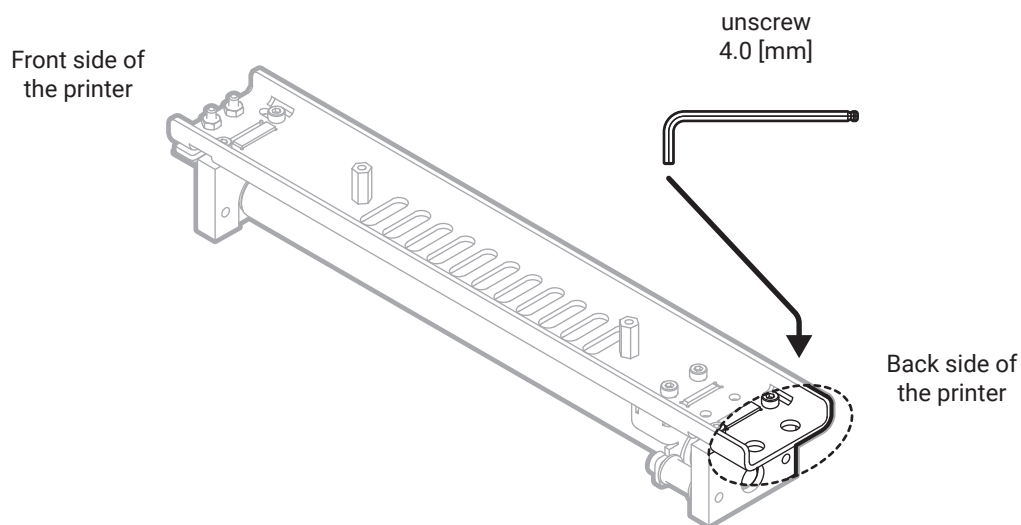

Fig. 4 Unscrew and remove the Recoater with roller and cord.
11. Using a 4 mm allen key unscrew the two screws holding the Recoater to the bearing (fig. 4).